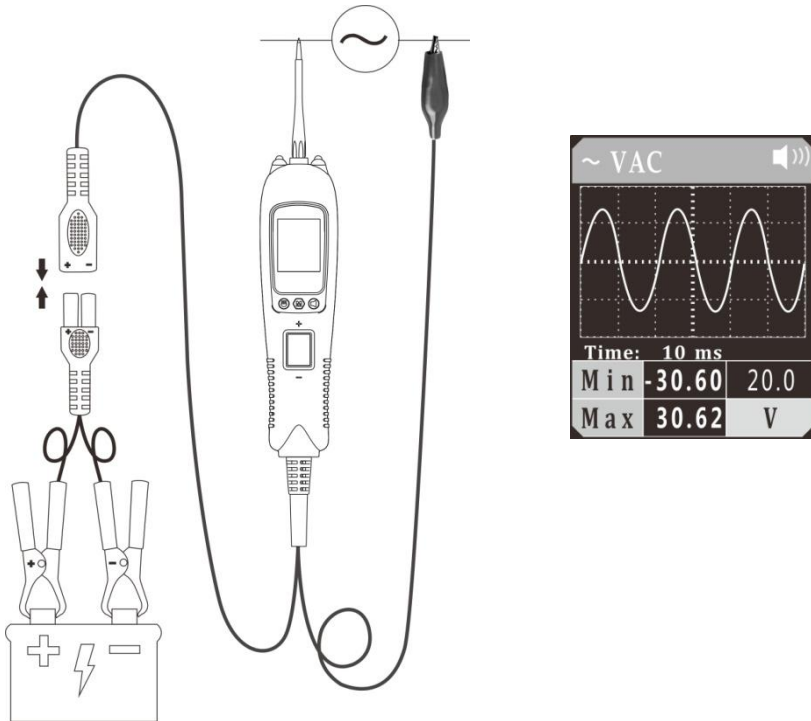

Figure 4
- 3) The auxiliary ground wire is connected to one end of the circuit under test, and the probe contacts the other end of the test circuit. The LCD display will read the maximum and minimum voltage value (Figure 4), and display the signal waveform in real time. You can adjust the sampling frequency by pressing the Up/Down Button.
- 4) In Figure 4, "time: 10 ms" is the time interval indicated by each large grid. This time reading will change with the sampling frequency.